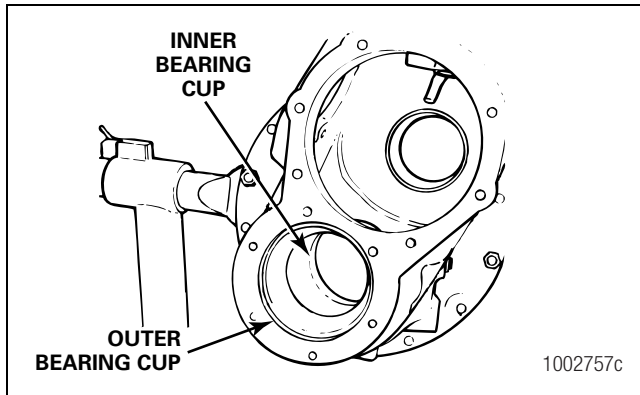

Figure 3.53
3. If necessary, remove the inner and the outer bearing cups from the carrier. Use a hammer and drift to remove the cups from the carrier. Replace any shims that are damaged. Measure and record the thickness of the shim pack for assembly. Figure 3.53.